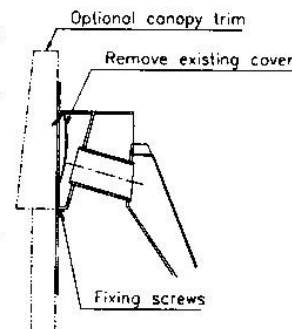

Fig. 10 Fitting canopy trim
10. If a flat trim or box trim has been supplied, attach it to the fire flange by means of the magnets. If the optional canopy trim has been supplied, first remove and discard the existing front cover by undoing the two screws in its bottom edge, then secure the canopy trim using the same fixings. (See Fig. 10)